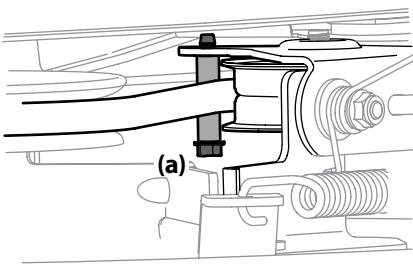

Figure 4-14
6. Remove the belt keeper (30" decks only) by removing the hex bolt (a) that secures it. See Figure 4-14.